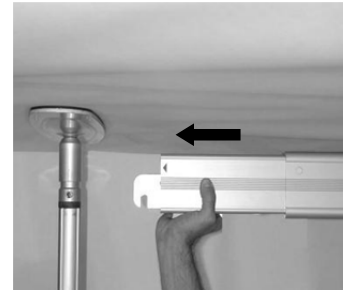

Figure 29
17. Raise the rail slightly, and then extend the rail to the second post (see Figure 29).